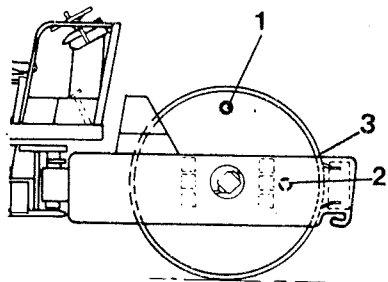

Fig 46 Filling with oil
3 Drive the roller onto a level surface so that the plug (1) is at its highest position (see fig 46). Later models are also fitted with a level pin (3), which should be level with the top of the frame member when the plug is at its highest position.